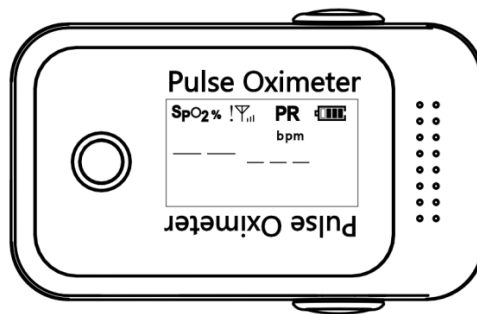

Figure 10
c. When there is no finger inserted, the invalid value “-- --” will be displayed on the screen, as shown in **Figure 10**.